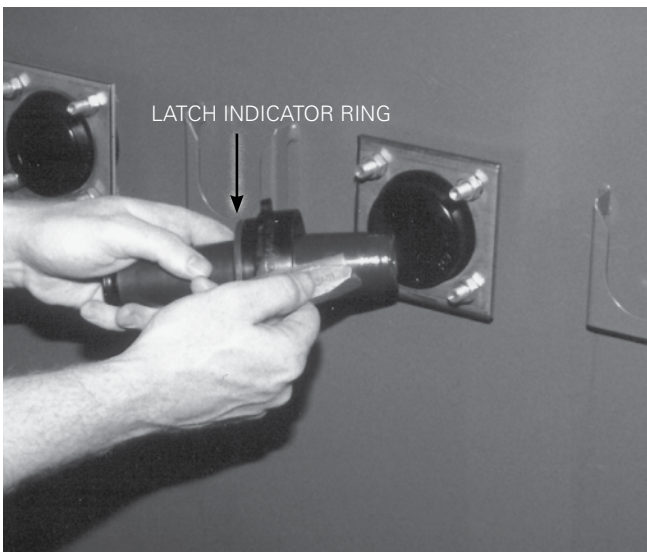

Figure 2. Clean and lubricate interface of bushing insert (15 kV version shown).
- Clean mating interface of bushing insert and apply a thin, uniform coating of silicone lubricant. (See Figure 2.)